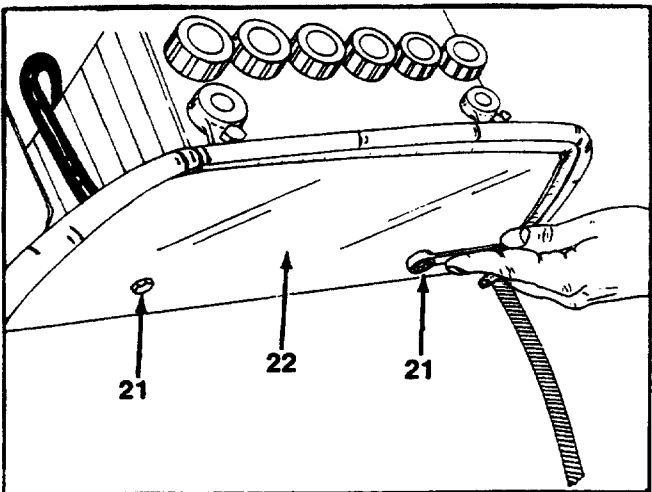

FIGURE 12.
14. Remove two hex nuts from heat shield, remove heat shield. See figure 12.